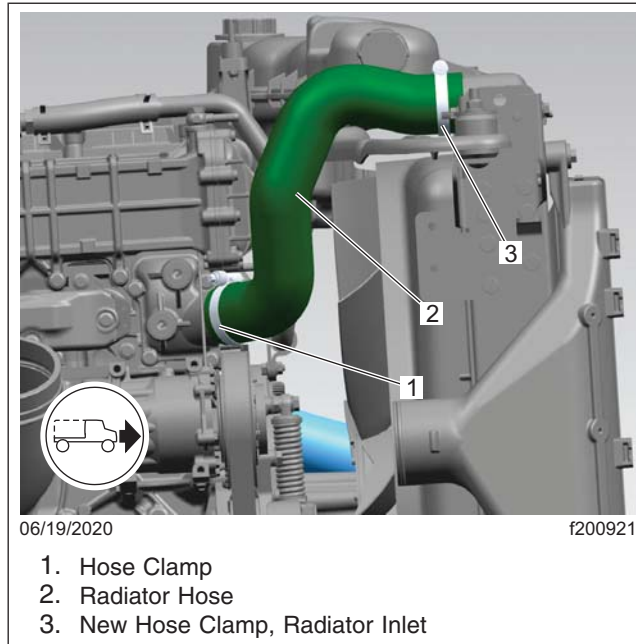
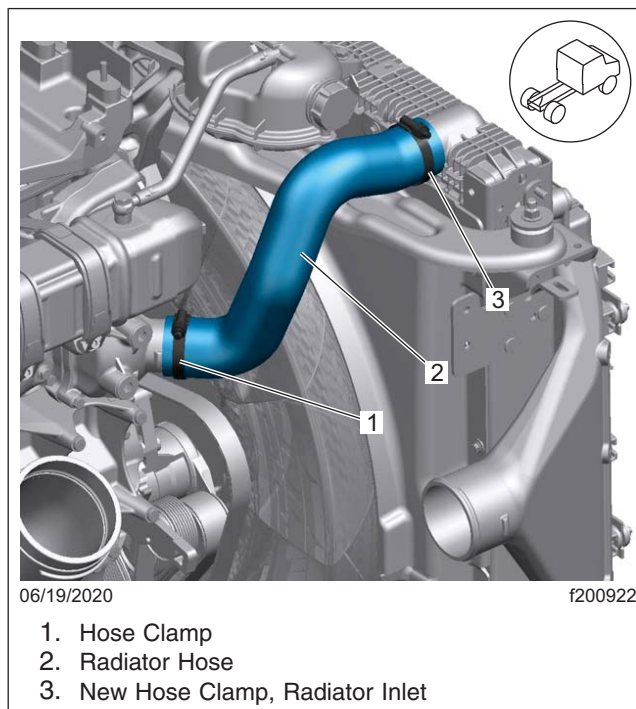

Fig. 12, For DD13 Engine
Fig. 13, For DD16 Engine
10. Install the new hose clamp on the radiator inlet side to attach the upper radiator hose. See Fig. 12 and Fig. 13 for DD13 and DD16 engines respectively.